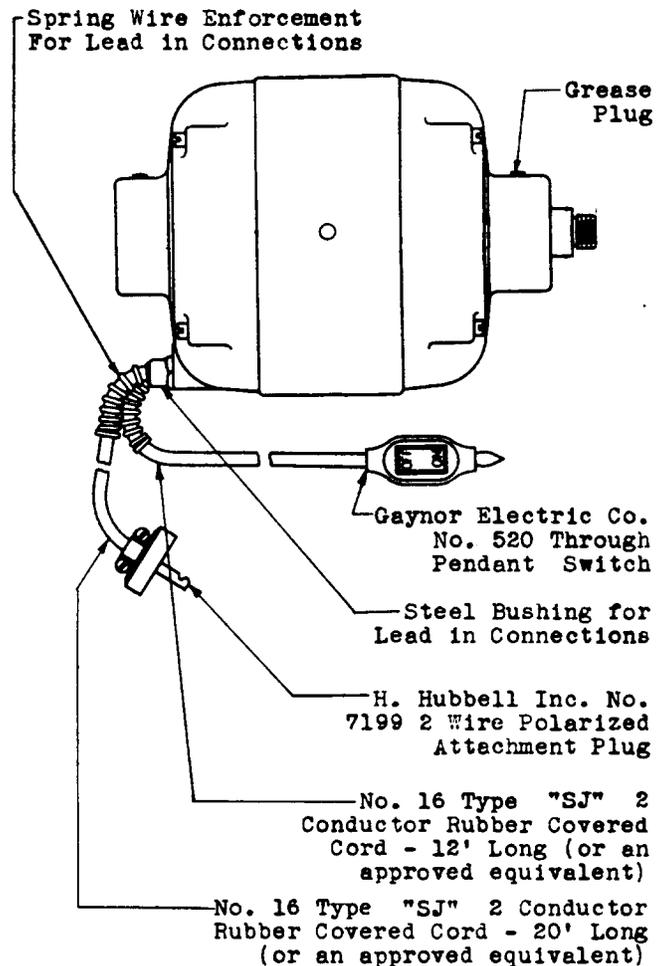

Fig. 1 - Parts for KS-5402 (List 1) 110 Volt A.C. and (List 2) 110 Volt D.C. Motors
2.02 Parts for the KS-5402 (list 2) 110 Volt D.C. motor are listed in Fig. 1. In addition to the parts listed in Fig. 1, brushes and springs, brush holders, brush holder screw caps and ball bearing assemblies may be ordered in the same manner as described herein for ordering parts for the KS-5402 (list 1) 110 volt A.C. motor. Information for ordering other parts for the D.C. motor will be given in a subsequent issue of this section.